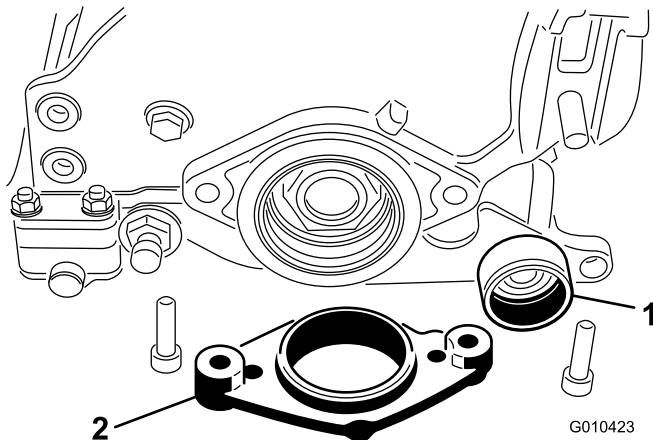

Figure 9
6. Apply grease to the seal in the right sideplate-bearing support and to the end of the groomer shaft (Figure 9).
7. Insert the other end of the groomer shaft into the right sideplate-bearing support (Figure 9).
8. Insert the motor mount onto the sideplate (Figure 9).
9. Secure the motor mount and sideplate to the right end of the cutting unit with the 2 bolts and nuts previously removed (Figure 9).